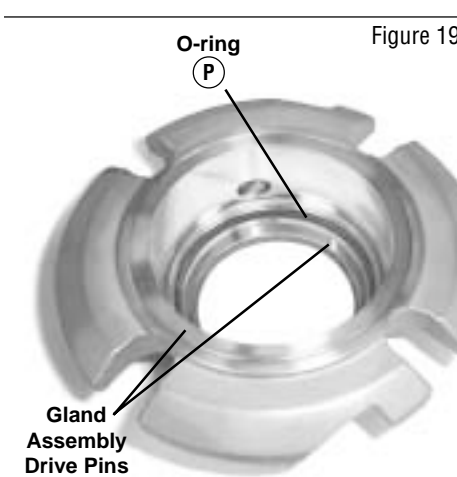

Figure 19
4.17 Place the outboard dynamic O-ring (P) in the dynamic O-ring surface of the gland assembly. (Figure 19)